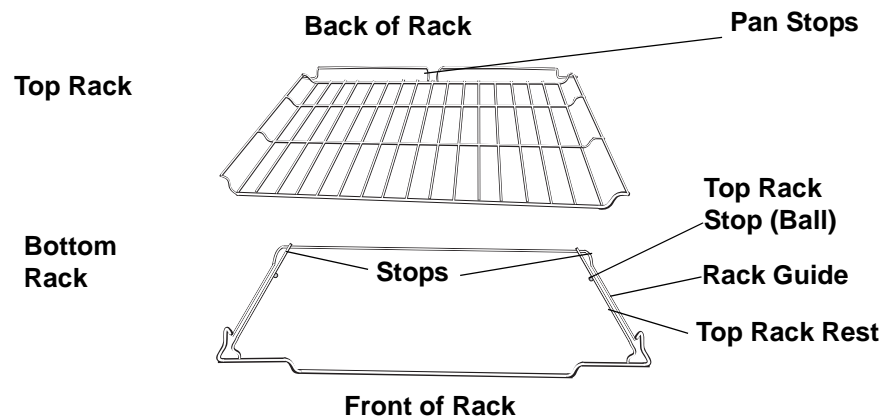

Figure 3: Full Extension Rack
4. Push top rack the rest of the way in (See Figure 3).